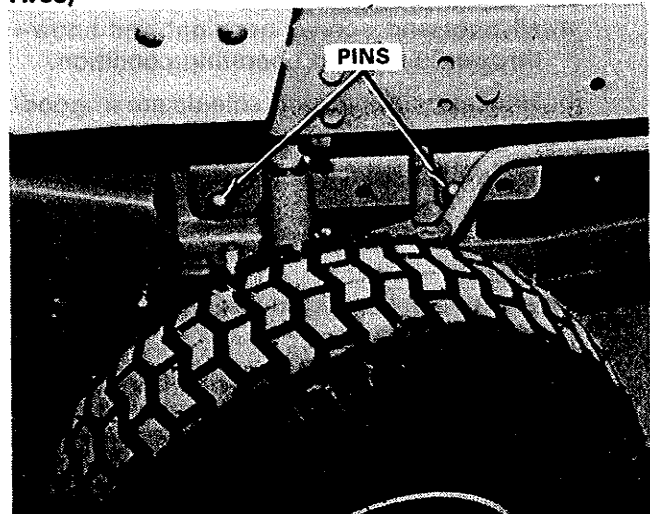

**Figure 2. Snowthrower Hitch (Tractors with 20" or 23" Rear Tires and all 2-Cylinder)**
4. Lift the hitch and slide the bracket (A, figure 1) onto the shaft (B). On tractors with 20 inch or 23 inch diameter rear tires or 18 inch rear tires with 2-cylinder engine, the shaft extends forward as shown in figure 2. On tractors with 18 inch tires, the shaft (B, figure 1) extends rearward.